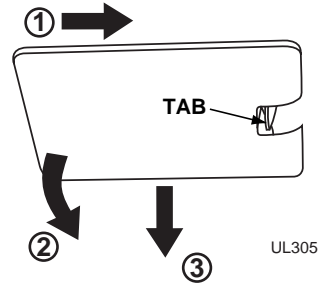

Figure 35
1. Remove the light housing cover by sliding the cover toward the tab, swinging the end opposite the tab down and pulling down and away (Figure 35).